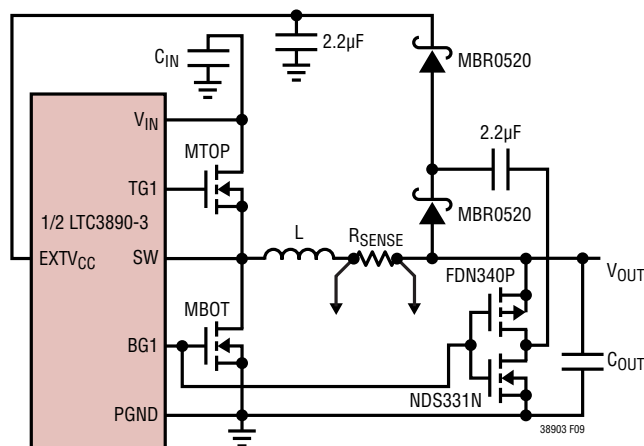

Figure 9. Capacitive Charge Pump for EXTVCC
4. EXTVCC Connected to an Output-Derived Boost Network. For 3.3V and other low voltage regulators, efficiency gains can still be realized by connecting EXTVCC to an output-derived voltage that has been boosted to greater than 4.7V. This can be done with the capacitive charge pump shown in Figure 9. Ensure that EXTVCC < VIN.